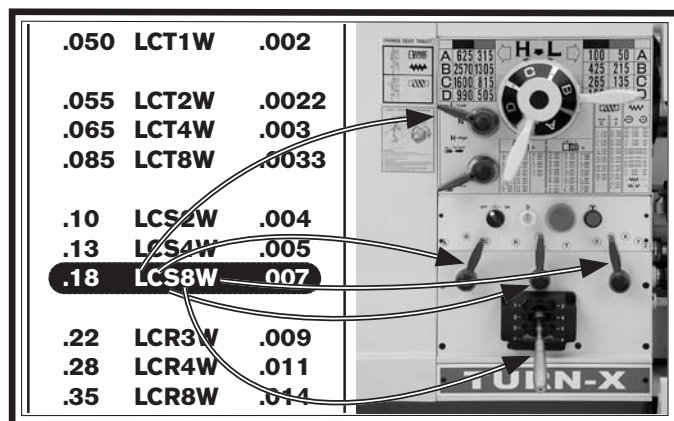

Figure 73. Power feed controls positioned for 0.18 mm/rev.
4. Position the controls as directed by the configuration string as follows (see **Figure 73**):